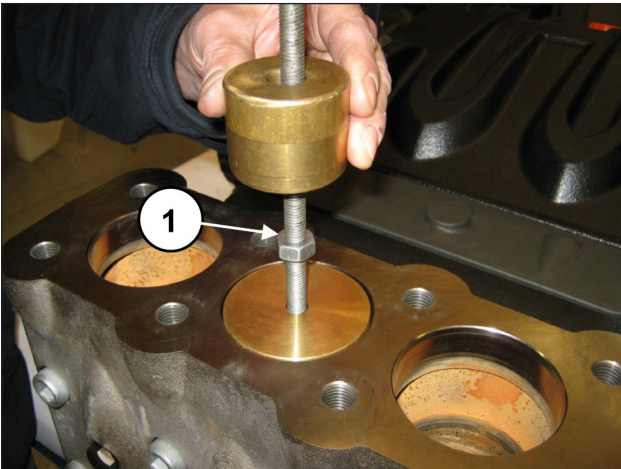

Fig. 96
Extract the valve plug with the use of an extractor hammer to be applied on the M10 hole of the valve plug (pos. ①, Fig. 96).